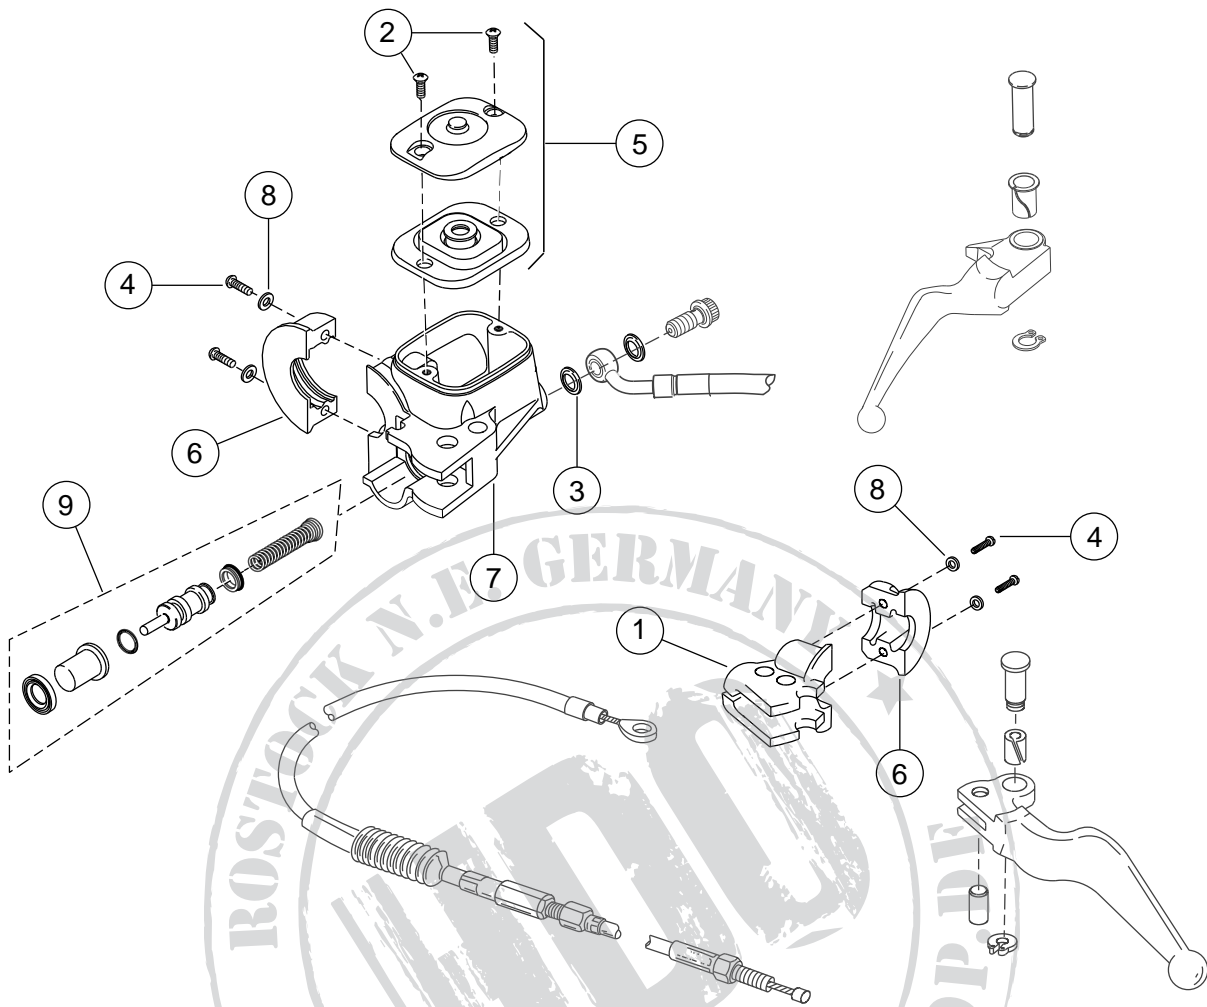

Figure 9. Service Parts: Chrome Front Brake Master Cylinder Kit
New master cylinder comes with all internal components pre-assembled. It is not necessary to remove the components from the bore of the old master cylinder. See Figure 9.
1. See Figure 9. Install the clutch cable and anchor pin in the clutch hand lever. The flat in the pin must face in towards the hand lever.